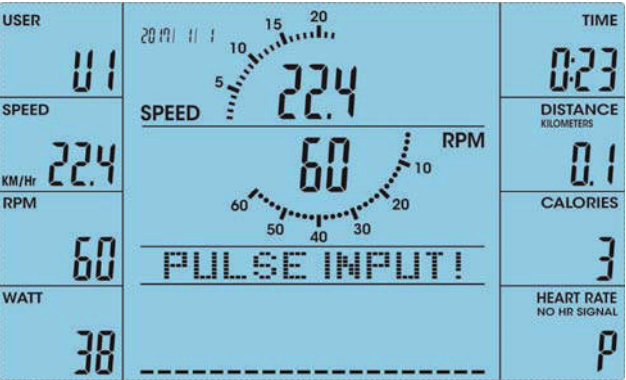

FIGURE 43
- 3. After start training, TIME will be counted down. When the TIME is counted to 0, the screen is flashing and the alarm is ringing. User can press any button to stop the alarm. If there is no HR input for 6 seconds, LCD will display "PULSE INPUT" for reminder until HR signal input. (FIGURE 43)